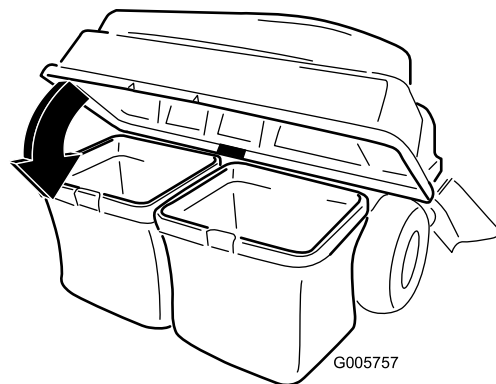

Figure 11
- Lower the bagger top onto the bag (Figure 11).